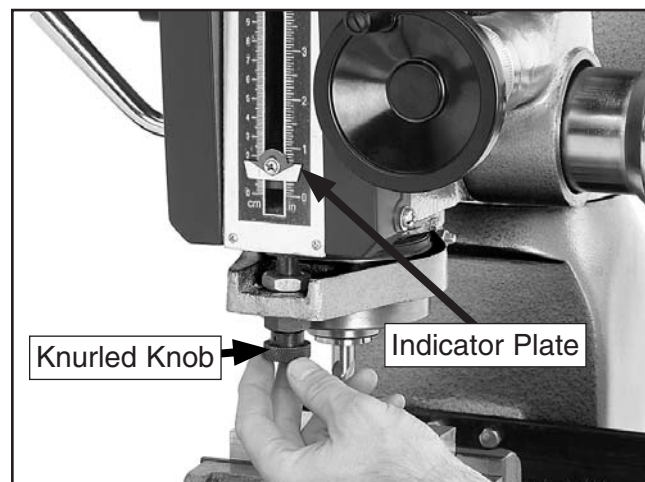

Figure 25. Setting depth stop.
2. Turn the knurled knob of the depth stop leadscrew until the top of the indicator plate is level with your desired depth as listed on the scale to the left or right (**Figure 25**).